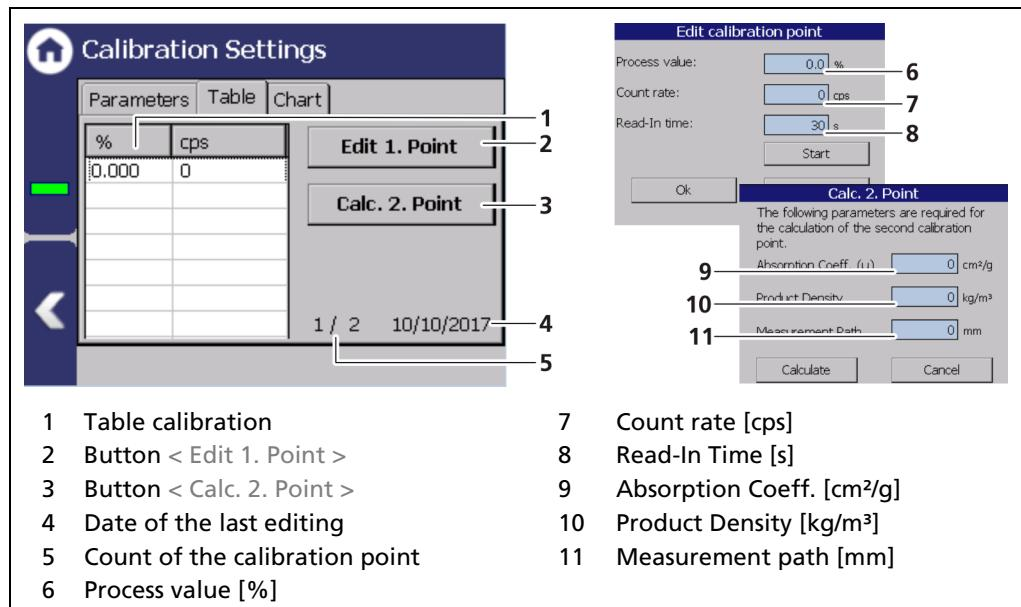

Fig. 81 Calibration Parameters (Table 1 Point Exp. calibration type)
1. Click on the button < Edit 1. Point > (Fig. 81, item 2).
- The window "Edit calibration point" (Fig. 81, item 6-8) opens.
7. Click on the button < Calc. 2. Point > (Fig. 81, item 3).
8. Enter the absorption coefficient of the product (Fig. 81, item 9). Enter it with a negative prefix.
- 9. Enter the product density (Fig. 81, item 10).
- 10. Enter the measurement path (Fig. 81, item 11).